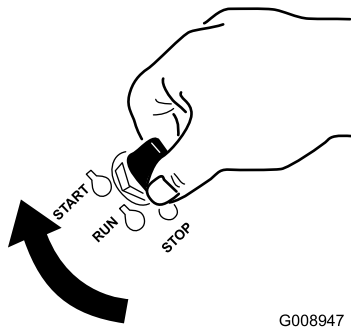

Figure 20
6. Turn the ignition key to the Start position (Figure 20). When the engine starts, release the key.